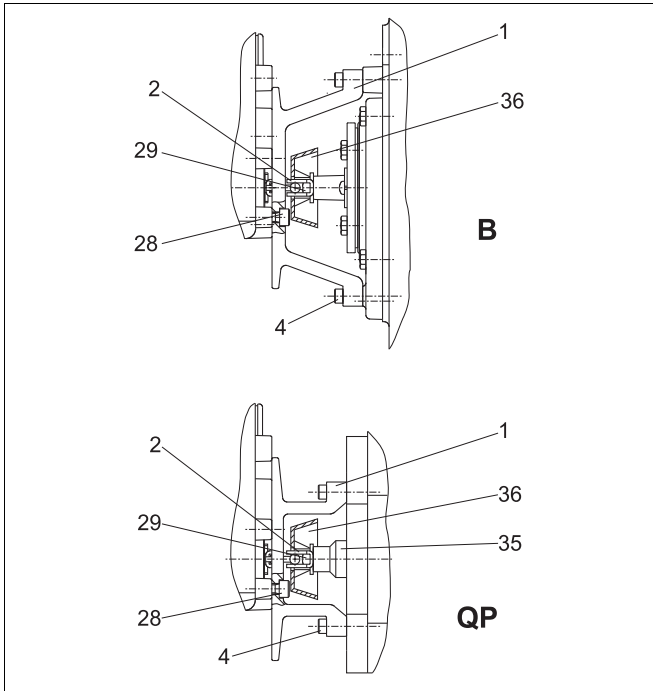

Fig. 4 Installing on a Neles actuator (S1)
2. Install the pointer (only B_U) parallel with the valve closure member and fasten the draught piece (2) with a screw (29) to the pointer cover (B_U) or to the coupling (QP), as shown in Fig. 4. Secure the draught piece fastening screw with a sealant (e.g. Loctite) and tighten it properly.
3. Fasten the mounting bracket (1) to the positioner.
4. Fasten the mounting bracket (1) to the actuator.